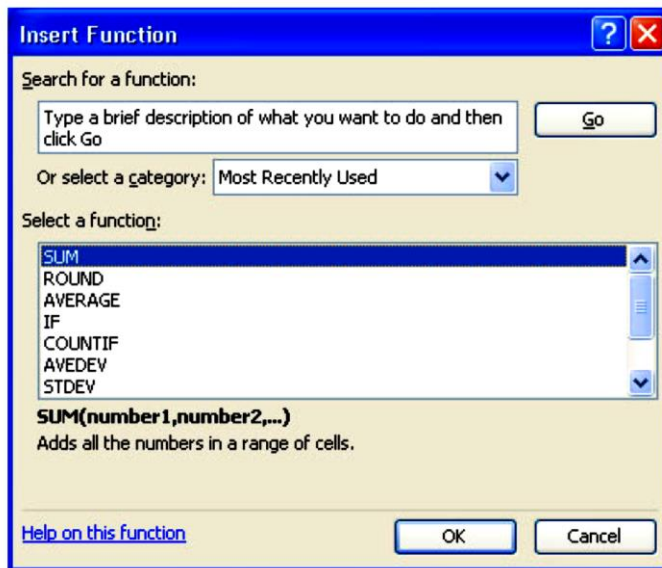

Figure 4
3. From the Insert Function dialog box (**Fig. 4**), browse through the functions by selecting a function category from the drop-down menu, and select the function from the list below. As each function name is highlighted a description and example is provided below the two boxes.